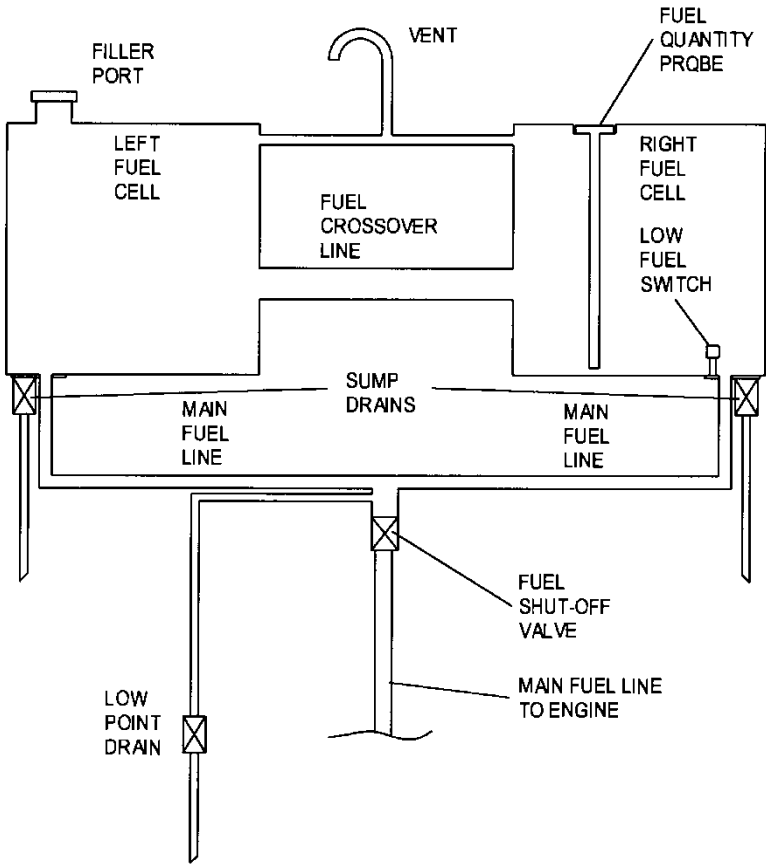

Figure 7-6. Fuel System Diagram
1. The 480B is equipped with fuel bladders designed to retain fuel in a crash. The fuel bladders are filled with open cell foam panels which prevent the bladders from collapsing and to prevent fuel sloshing as the aircraft attitude is changed. The fuel bladders have a total fuel capacity of 90 gallons/340 liters, with a total of 1.7 gallons unusable fuel, 0.85 gallon/3.2 liter unusable fuel in each tank. The simplified fuel system diagram (Figure 7-6) consists of two 45 gallon/170 liter bladder type fuel cells mounted either side of the main rotor transmission. Each bladder is housed in a composite fuel cell structure and is interconnected to the other bladder through a 2.0 inch/5.1 cm cross-feed line in the lower 1/3 of the fuel cell and a 0.5 inch/1.3 cm overboard vent line. A 0.75 inch/1.9 cm main fuel feed line from the lowest point in each bladder interconnects through the main fuel shutoff valve in a "tee" to provide the fuel to the engine equally from each cell. The main fuel shutoff valve is a ball type valve manually operated from the cockpit. It is activated by pushing the center button in and holding it in while pulling the knob fully out until it stops, approximately a 4 inch/10 cm pull. Each fuel cell is equipped with sump drains plus the system is equipped with a low point drain before the fuel enters the engine. The capacitance fuel quantity probe is mounted in the right hand fuel cell. The fuel filler cap is located in the top of the left hand fuel cell. The right hand cell is filled by cross-feeding action during gravity refueling.